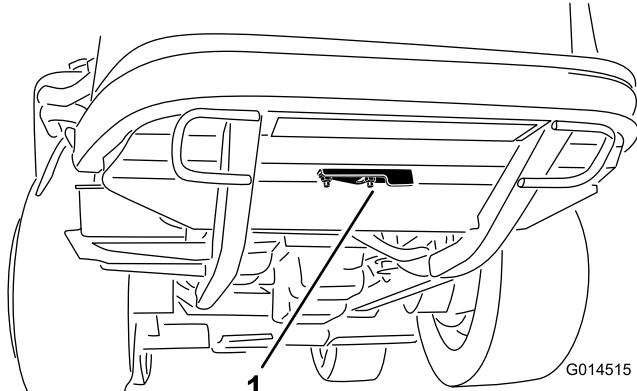

Figure 35
2. Loosen the flange nut securing the clean out cover to the underside of the rear frame (Figure 35). Rotate the cover to the side to expose the clean out hole in the frame.